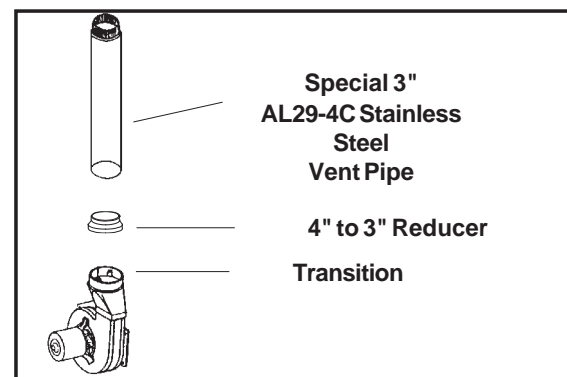

Figure 19. *RK Reducer Installation
5. Install and seal a 4" to 3" reducer to the transition. (See Figure 19.) Attach the new high temperature vent pipe to the reducer.